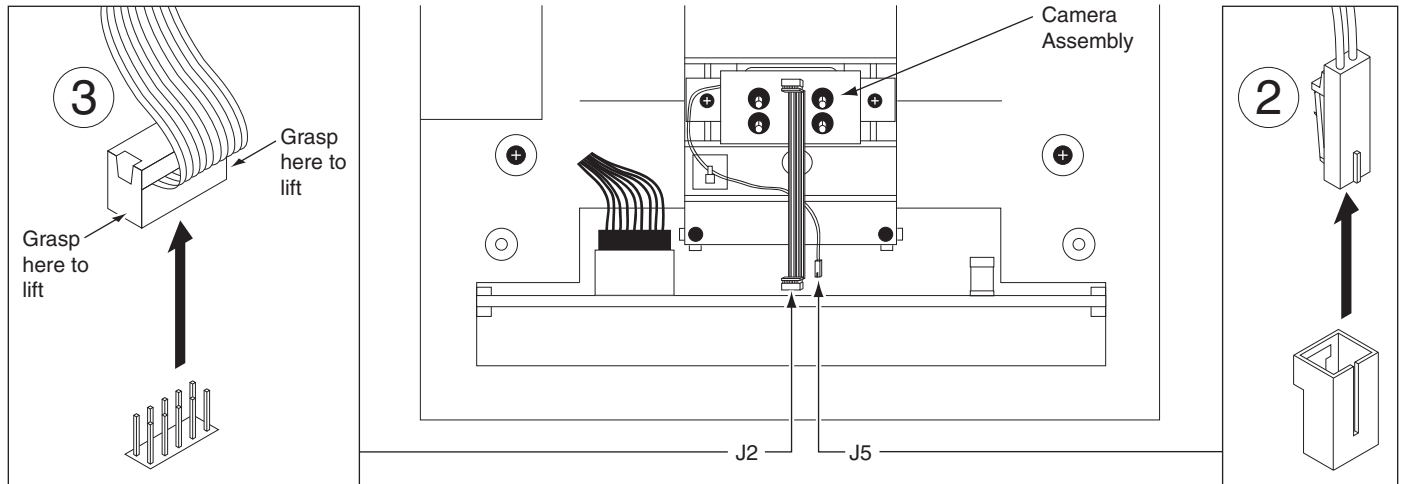

Figure 5
8. Carefully slide the main circuit board out until the ribbon cable between the camera assembly and J2 on the main circuit board is accessible. First, disconnect the J5 connector from the main board. To remove, depress the retaining clip on the J5 connector and pull upwards. See “2” on figure 5 below. Next, remove the ribbon cable from J2 by gently pulling up on this cable, being careful not to pull down as damage may occur to the camera assembly. See “3” on figure 5 below.